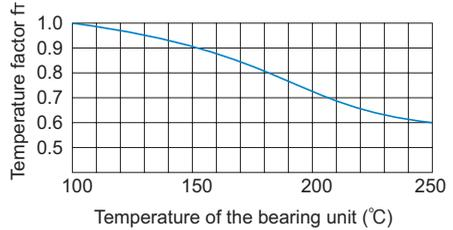

Fig.1 Temperature Factor (fT)
**C** : Basic dynamic load rating (N)
**Pc** : Dynamic equivalent radial load (N)
**fT** : Temperature factor (see Fig.1)